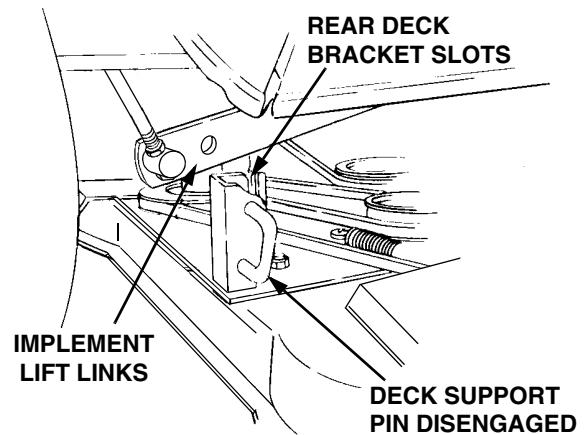

Figure 32
8. If not already done, pull the deck support pins outward, turn downward and release so both spring-loaded pins are held in the disengaged position against the outer surface of the deck brackets (See Figure 32).